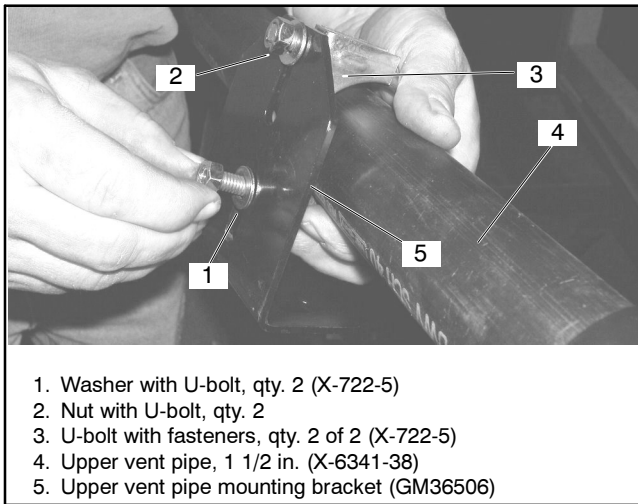

Figure 22 Upper Vent Pipe Mounting Bracket
2.3.4 Discard saddle on U-bolt X-722-5 and attach U-bolt with fasteners to upper vent pipe mounting bracket GM36056. Slide 1 1/2 in. upper vent pipe X-6341-38 through U-bolt. Hand tighten fasteners attached to U-bolt. See Figure 22.
2.3.14 Slide through U-bolt X-722-5 over 1 1/2 in. upper vent pipe X-6341-38 and thru slots of upper vent pipe support bracket GM36056. Attach fasteners to ends of U-bolts. See Figure 22.